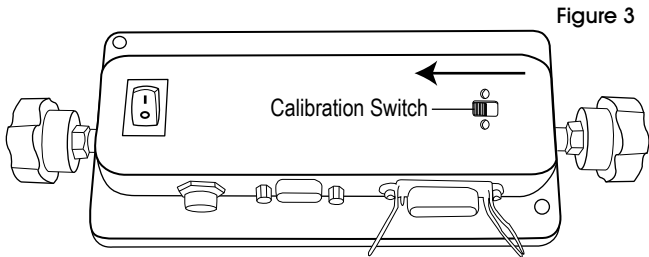

Figure 3
2. Slide calibration switch towards off/on switch to enter calibration mode. (See Figure 3)